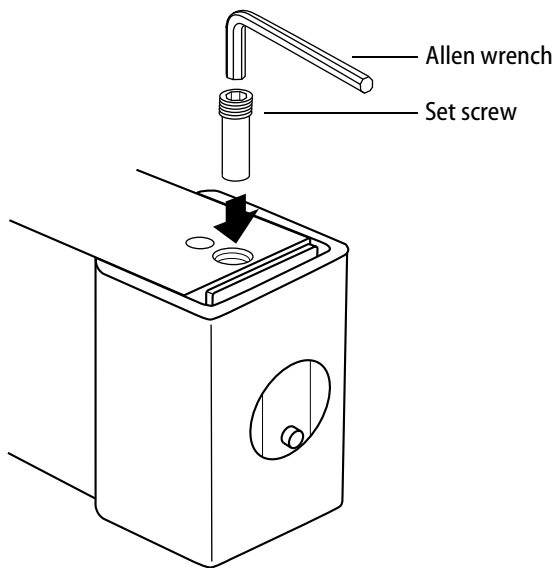

Figure 4 — Trapping the steel ball with the set screw
- 4 Screw in the set screw with the Allen wrench to trap the ball. See Figure 4.